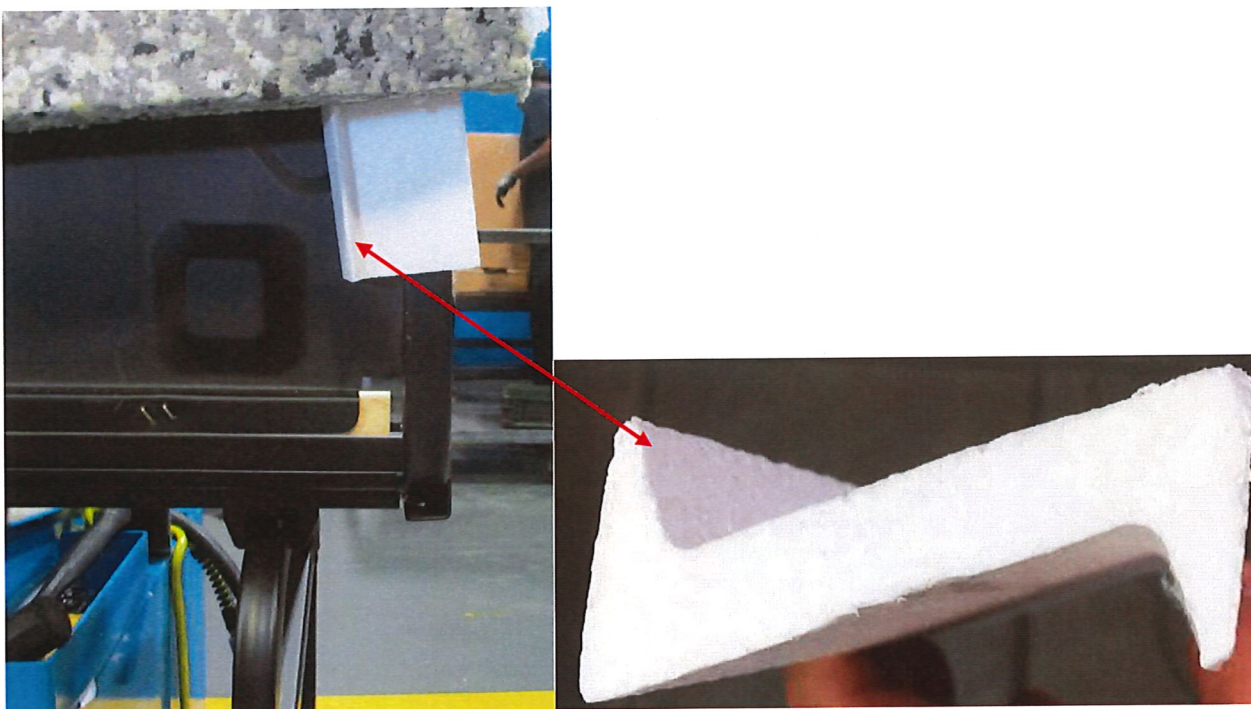

Figure 11: Styrene installed between seat back metal frame and foam
16. Insert Styrene into cut on each side of seat as shown in Figure 11